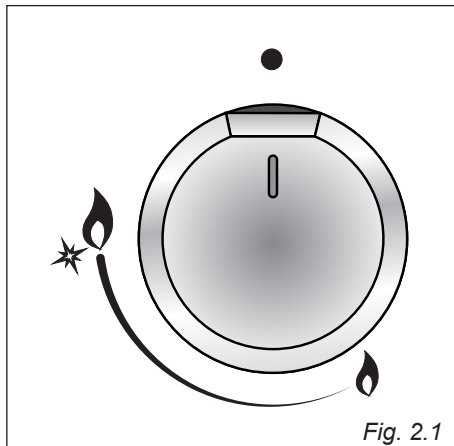
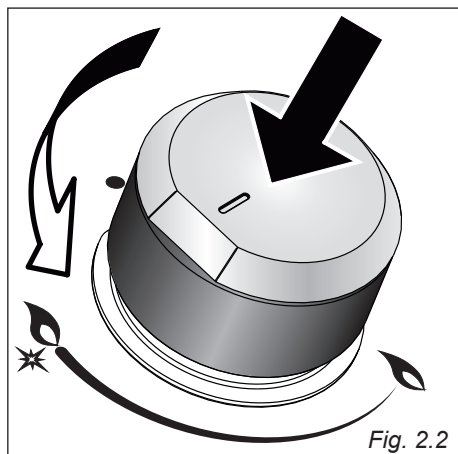

Fig. 2.1
Fig. 2.2
Gas flow to the burners is adjusted by turning the knobs (illustrated in fig. 2.1) which control the safety valves.
1. Press in the corresponding knob and turn counter-clockwise (fig. 2.2) to the full flame position marked by the “” symbol (fig. 2.1); hold the knob in until the flame has been lit.